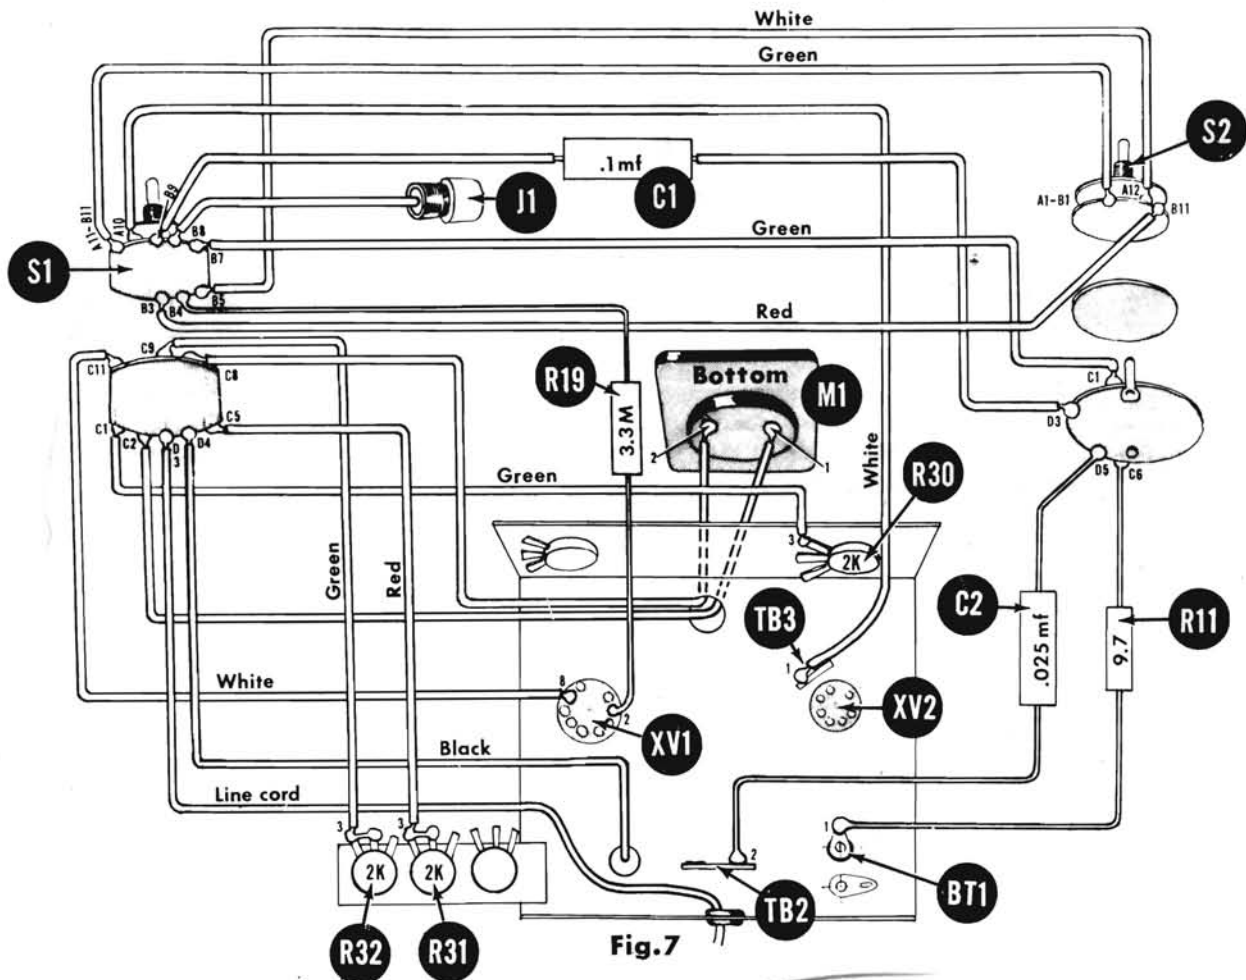

Fig. 7
- () Fig. 7. Connect the 3.3M Ω resistor R19 from XV1-2 to S1-B4 (S).
- () Fig. 7. Connect the white wire from XV1-8 to S1-C11 (S).
- () Fig. 7. Connect the white wire from TB3-1 to S1-A10 (S).
- () Fig. 7. Connect the red wire from R31-3 to S1-C5 (S).
- () Fig. 7. Connect the green wire from R32-3 to S1-C9 (S).
- () Fig. 7. Connect the free lead of the line cord to S1-D3 (S).
- () Fig. 7. Connect the black lead of power transformer T1 to S1-D4 (S).
- () Fig. 7. Connect the green wire from R30-3 to S1-C1 (S).
- () Fig. 7. Connect a 5 in. length of red hook-up wire from M1-1 (S) to S1-C2 (S). Pass lead thru chassis hole.
- () Fig. 7. Likewise, connect a 5 in. length of green hook-up wire from M1-2 (S) to S1-C8 (S).
- () Fig. 7. Connect a length of hook-up wire from J1 (S) to S1-B8 (S). Pass wire thru jack and solder to metal ring in center of plastic.
- () Fig. 7. Mount the prewired range switch S2 to the panel. Switch is in correct position when lug F points to bottom of panel.
- () Fig. 7. Connect the green wire from S2-A1 - B1 to S1-A11 - B11 (S).
- () Fig. 7. Connect the white wire from S2-A12 to S1-B5 (S).
- () Fig. 7. Connect the red wire from S2-B11 to S1-B3 (S).
- () Fig. 7. Connect the green wire from S2-C1 to S1-B7 (S).
- () Fig. 7. Connect the .1 mf capacitor C1 from S2-D3 to S1-B9 (S).
- () Fig. 7. Connect the .025 mf capacitor C2 from S2-D5 to TB2-2 (S).
- () Fig. 7. Connect the 9.7 Ω resistor R11 from S2-C6 to BT1-1 (S).